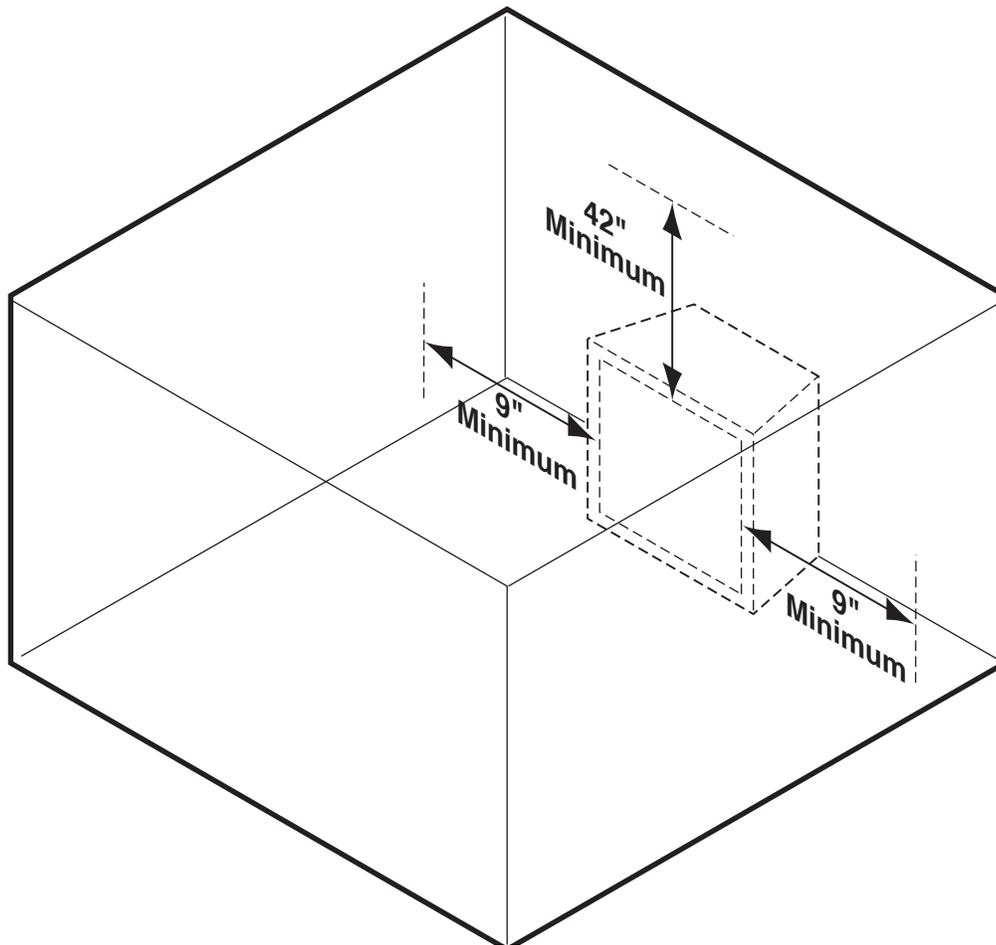

Figure 4 - Clearance and Height Requirements
Ensure that minimum clearances shown in Figures 4 through 8 are maintained. Left and right clearances are determined when facing the front of the firebox.
1. **Sidewall clearances:** The clearance from the inside of the appliance to any combustible wall should not be less than 9". *See Figure 4.*
2. **Ceiling clearance:** The ceiling must be at least 42" from the top of the firebox opening. *See Figure 4.*